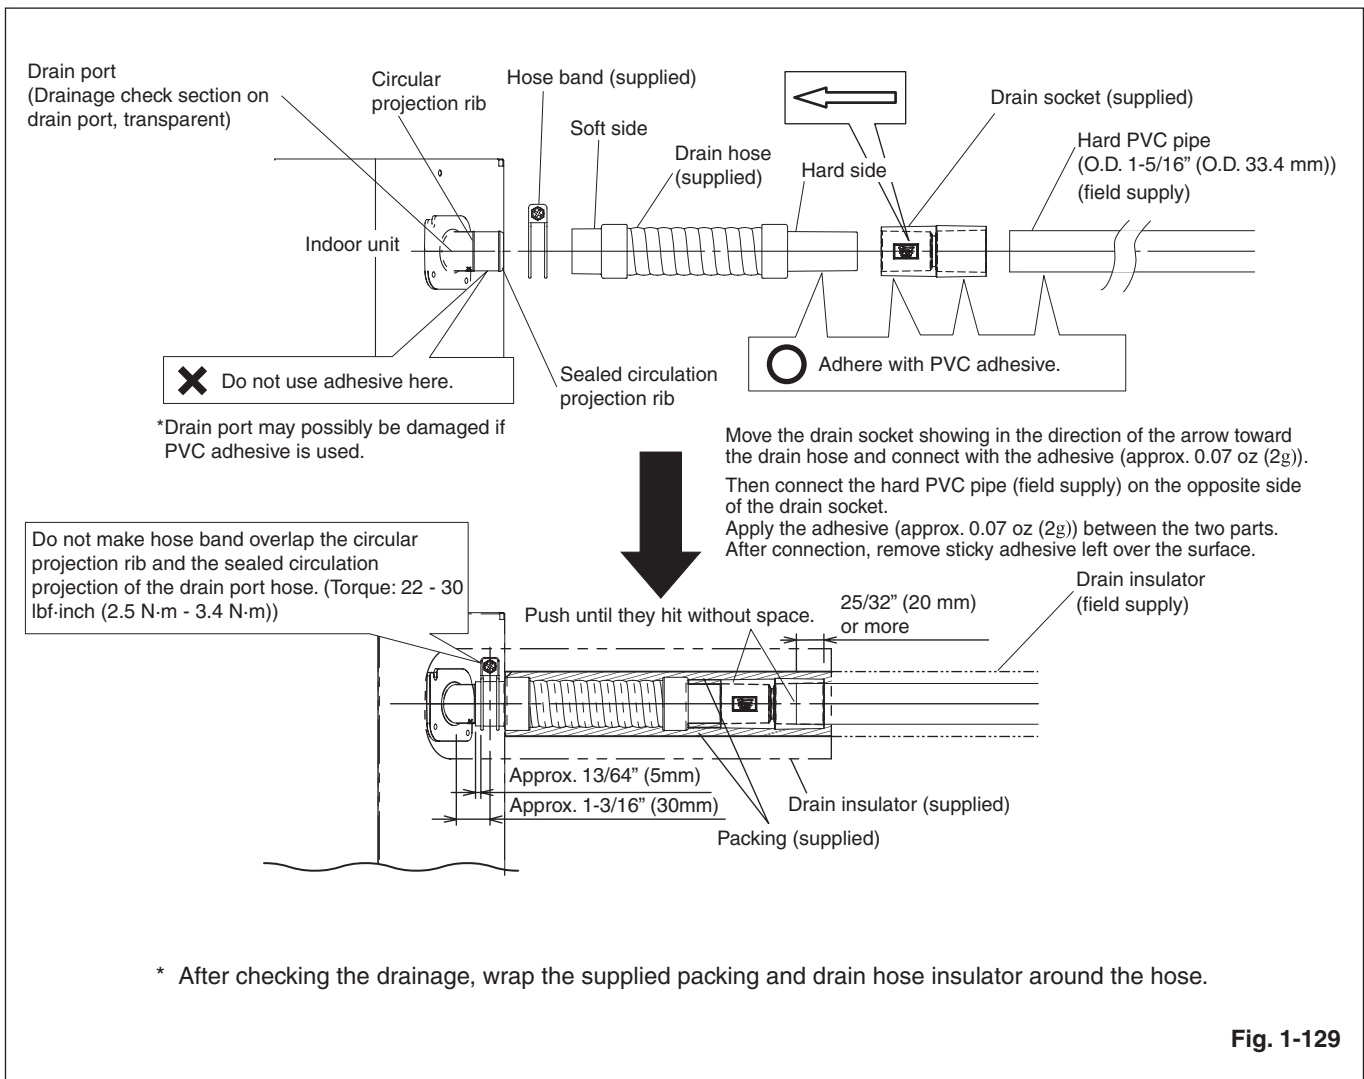

Fig. 1-129
- 3) Move the hose band so that the center position of the hose band can be placed approx. 1-3/16" (30 mm) away from the external plate of the indoor unit. (Fig. 1-129)